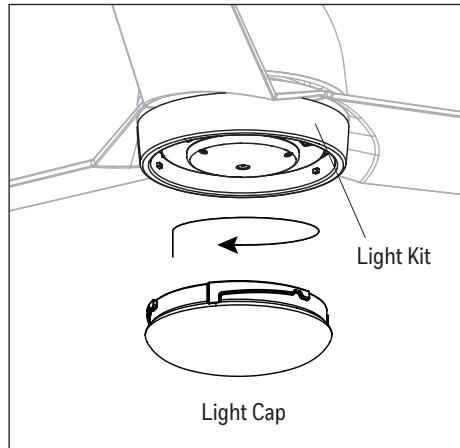

Figure 6.2
2. Attach the light cap to the light kit by twisting the light cap firmly in a clockwise direction until it is secure. **CAUTION:** Avoid cross-threading the light cap during installation. Improper installation could cause the light cap to be difficult to remove or fall, which could cause serious injury (Figure 6.2).